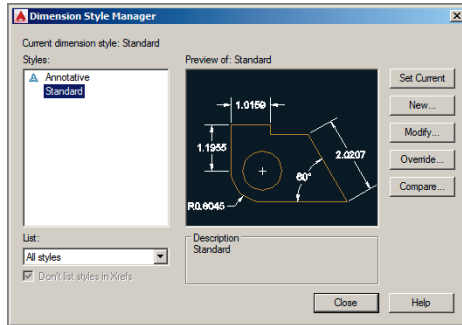

FIGURE 11.3 Dimension Style Manager
2. As you can see in the Dimension Style Manager (Figure 11.3), every drawing has Annotative and Standard dimension styles by default. The Standard style is selected by default. Click the Modify button to alter the Standard style.